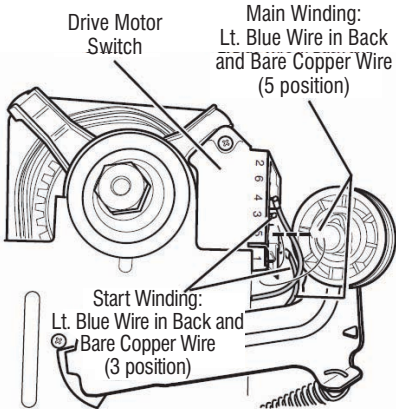

Figure 10 - Main and start winding measure points.
9. Remove the bare copper wire terminal from pin 5 of black drive motor switch. See Figure 10.
10. Using Figure 10 and the Strip Circuit on page 22, check for the resistance values of the motor's Main and Start winding coils as shown in the following table.